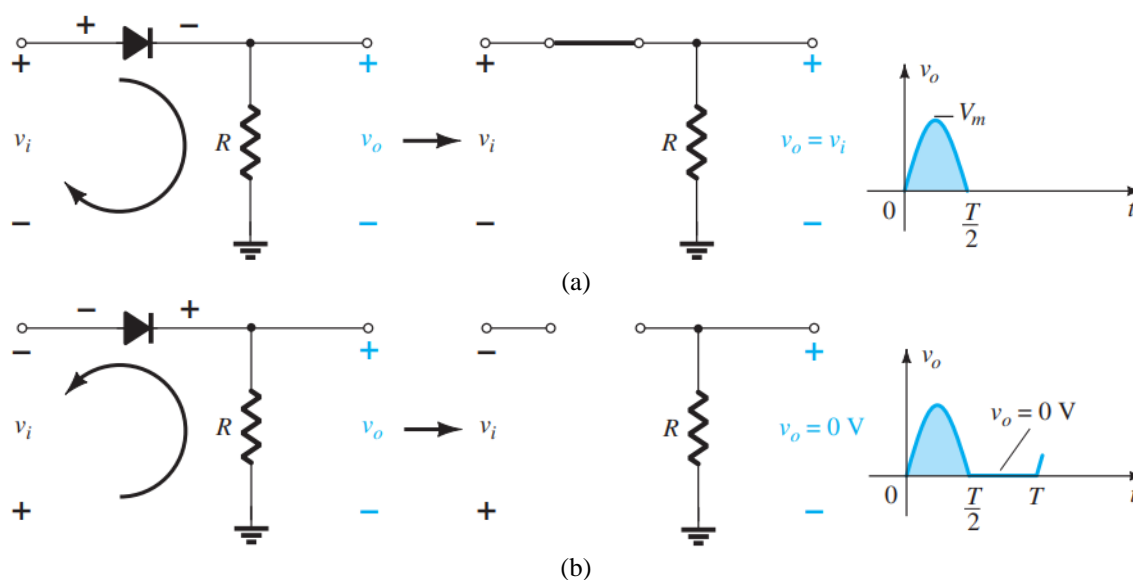
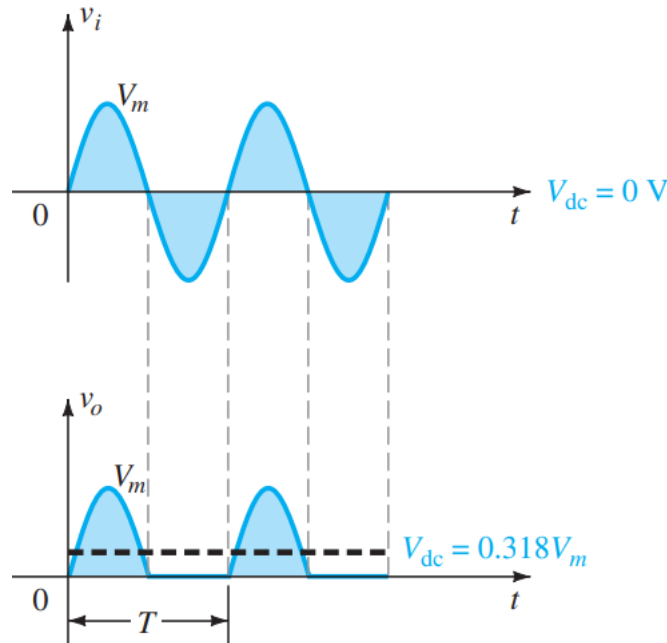

Figure 1: Half-Wave Rectification: (a) conduction in the positive half-cycle from 0 to $T/2$; (b) no conduction in the negative half-cycle from $T/2$ to T .
Figure 2: Half-wave rectified signal for two cycles.
In a half-wave rectifier, only half a cycle of applied AC voltage is used. Another half cycle of AC voltage (negative cycle) is not used. Only one diode is used which conducts during the positive cycle. The circuit diagram of a half-wave rectifier without a capacitor is shown in Fig. 1.
During the positive half cycle of the input voltage anode of the diode is positive compared with the cathode. The diode is in forward bias and current passes through the diode and a positive cycle develops across the load resistance R as shown in Fig. 1 (a). During the negative half cycle of input voltage, the anode is negative with respect to the cathode and the diode is in reverse bias. No current passes through the diode and hence the output voltage is zero across the load resistance R as shown in Fig. 1 (b). The complete wave shape for two cycles is shown in Fig. 2. The average value of the half-wave rectified voltage signal over a full period (T) is given by
Besides, they must implement the circuit (as given in Figures 1, 3, and 6) using a MultiSIM simulator. Observe the input-output wave shapes and fill up Tables 1, 2, and 3 using the simulation tool. Measure the values of different parameters and fill up the tables (Tables 1, 2, and 3) using the simulation tool.
2. Connect the circuit as shown in Figure 1 without any capacitors.
Table 1 Data Table for the Circuit of Figure 1